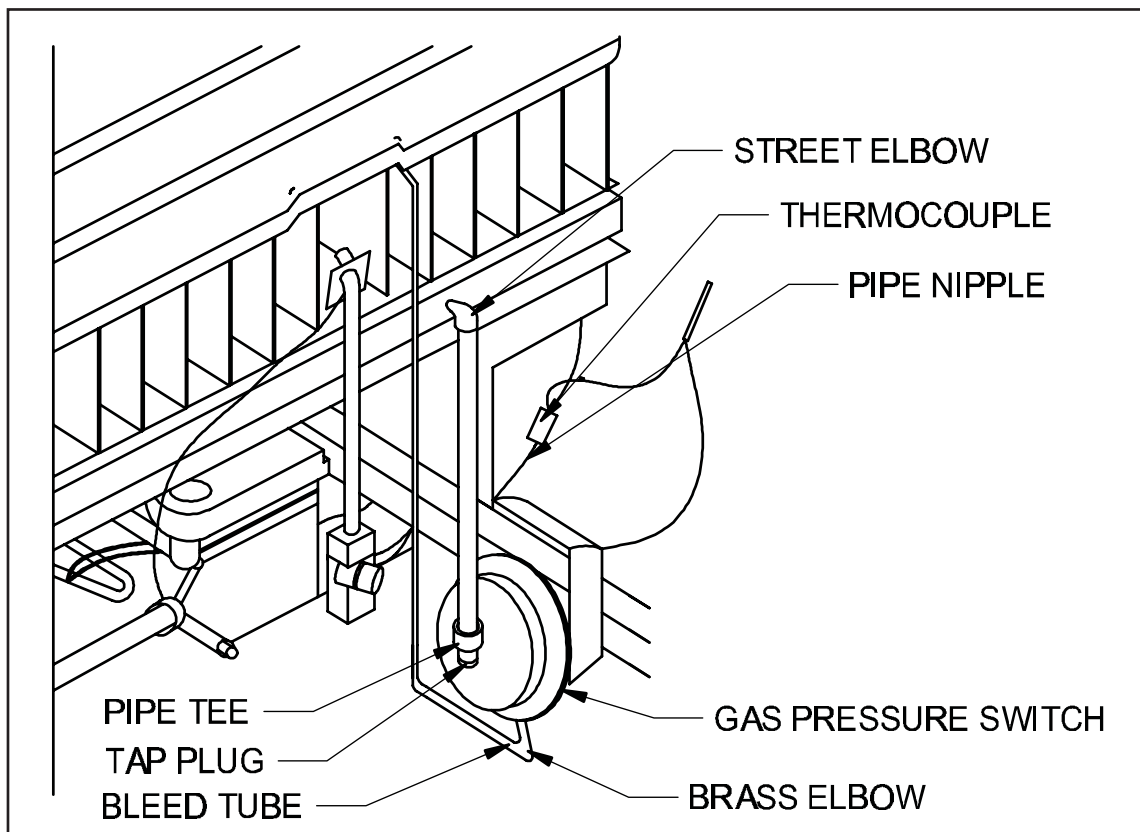

Figure 4
2. Install 1/8" NPT Street elbow (if required for mounting the gas pressure switch vertically) in place of the pressure tap plug. Then install the 3" x 1/8" NPT nipple, pipe tee and pressure tap plug. (See Figure 4)